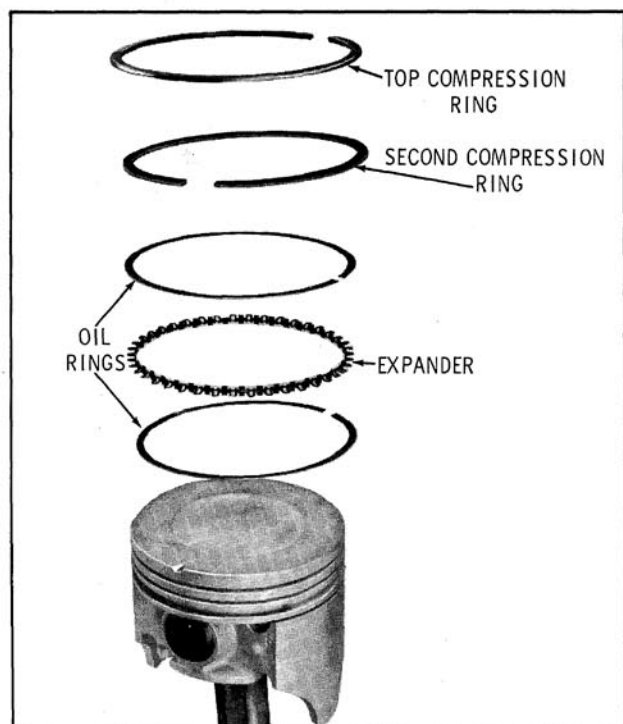

Fig. 3-82 Piston Rings
### RINGS (Fig. 3-82)
**Ring Installation (Fig. 3-82)**